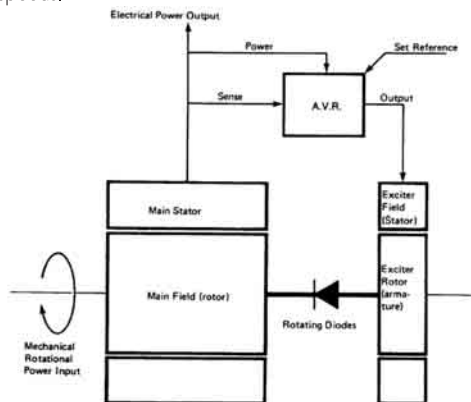

Figure.12.1. Alternator, operating principles block schematic diagram
The electrical power produced by the generating set is derived from a closed loop system consisting principally of the exciter rotor the man revolving field and the automatic voltage regulator (see Figure 12.1) The process begins when the engine starts to rotate the internal components of the alternator. The residual magnetism in the main rotor produces a small alternating voltage (AC) in the main stator. The automatic voltage regulator rectifies this voltage (converts it to DC) and applies it to the exciter stator.